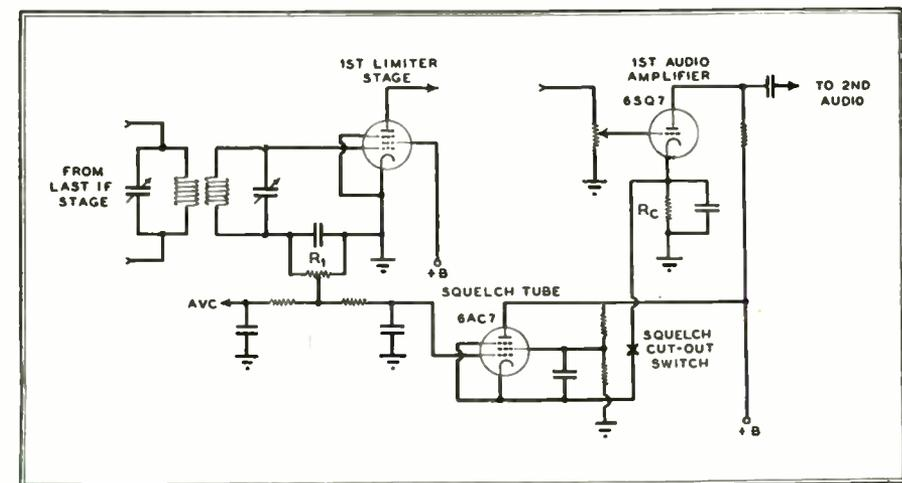

FIG. 67. CIRCUIT OF AN AUTOMATIC SQUELCH SYSTEM FOR SUPPRESSING INTERSTATION AND STANDBY NOISE IN FM RECEIVER
Figure 67 shows a typical squelch circuit. During the reception of signals, the first amplifier tube obtains its normal operating bias from cathode resistor R_C . The squelch tube is biased beyond cut-off by the negative voltage taken from the first limiter resistor R_1 .
In locations where the noise level is very low, the squelch system may shut off weak signals from which reasonably satisfactory reception could be obtained. It is desirable, therefore, that a switch be provided for stopping the squelch action. In the circuit shown in Fig. 67, this switch serves to disconnect the cathode of the squelch tube, and thus opens the circuit through which the squelch current is drawn.
In the case of the circuit shown in Fig. 67 (B) it will be found that when no signal is tuned in, the eye is closed. When the dial is tuned past the setting at which a station is heard, the eye first opens and then closes and overlaps, or vice-versa, depending upon the direction in which the dial is turned. The correct tuning adjustment is at the transition point between an opening and an overlap, where the eye is just closed.